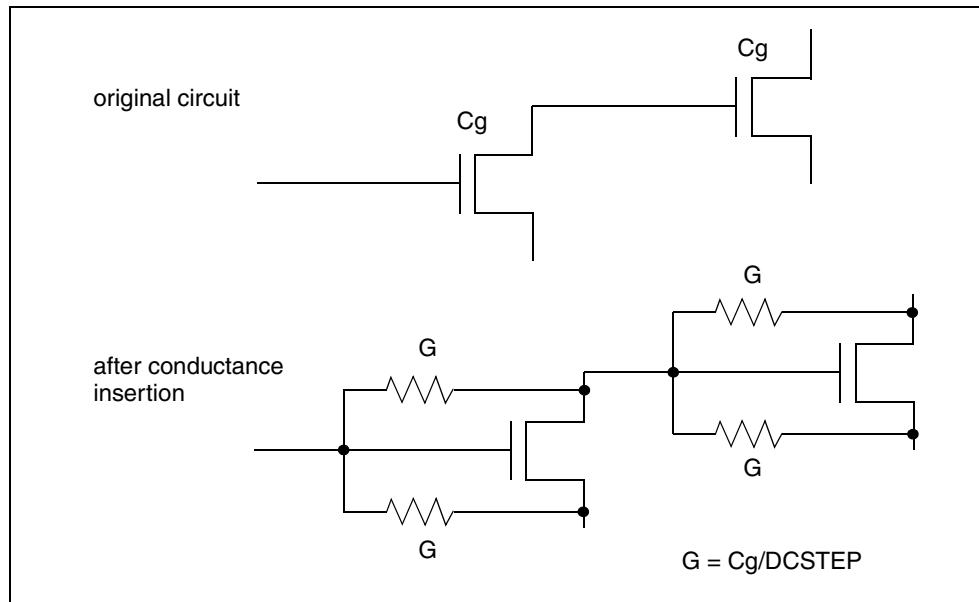

Figure 46 Conductance Insertion
In Figure 46 on page 473, HSPICE inserts conductance (G), in parallel with capacitance (C_g). This provides current paths around capacitances, in DC analysis.